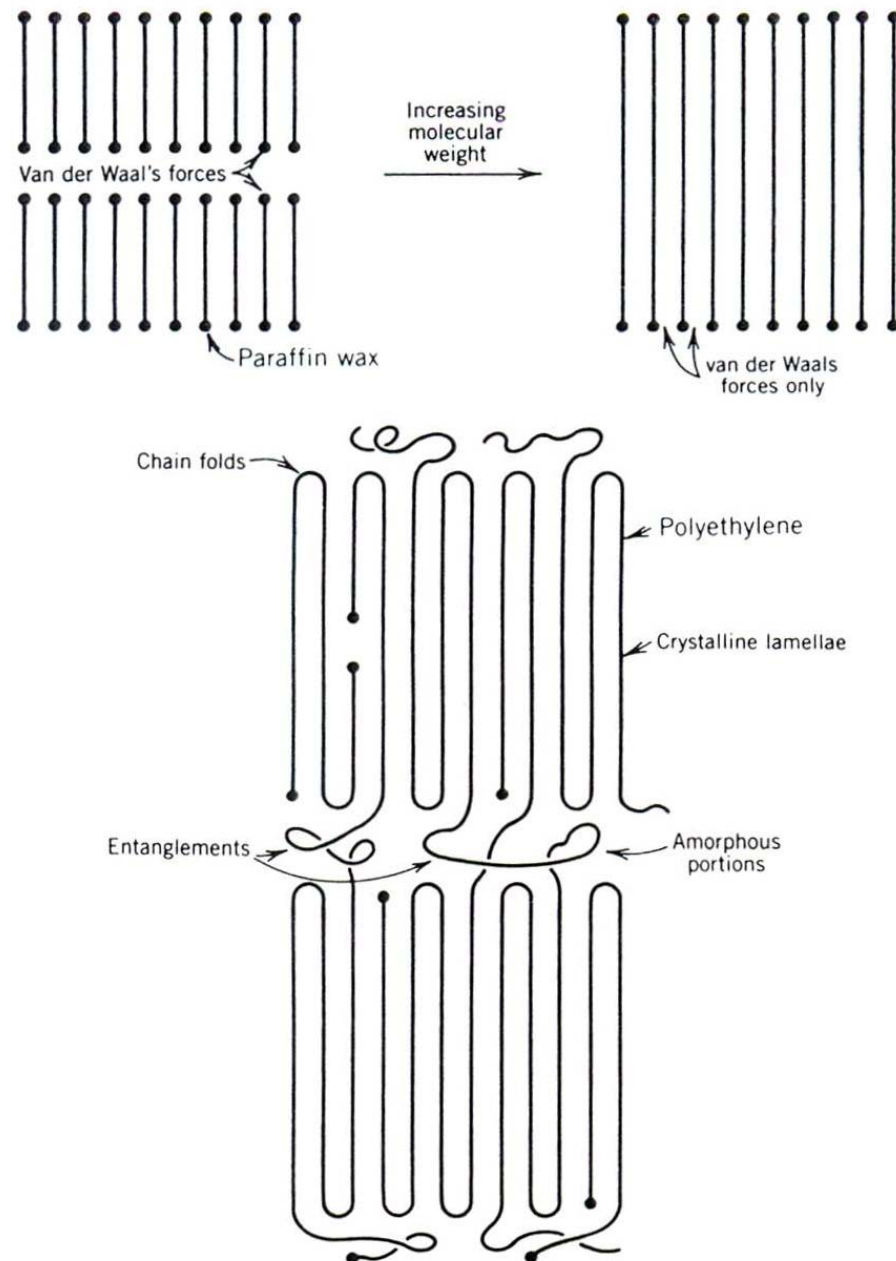

Figure 1.2
- Polyethylene** is a **tough** plastic solid because its **chains** are long enough to connect individual stems together within a lamellar crystallite by chain folding (see **Figure 1.2 -next**). **The chains also wander between lamellae, connecting several of them together.** These effects add strong covalent bond connections both within the lamellae and between them.